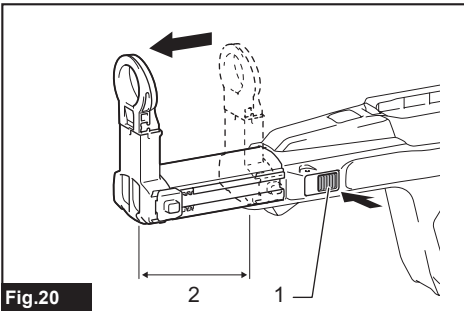

Fig.20
► Fig.20: 1. Guide adjustment button 2. Approx. 100 mm (3-15/16")